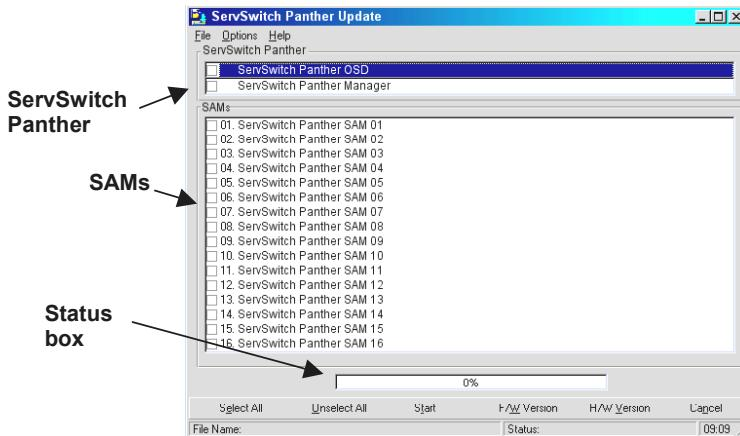

Figure 18 The ServSwitch Panther Switch Update window
1. In the ServSwitch Panther box – see Figure 18 – check the OSD option.
1. In the ServSwitch Panther box – see Figure 18 – check the **ServSwitch Panther Manager** option.